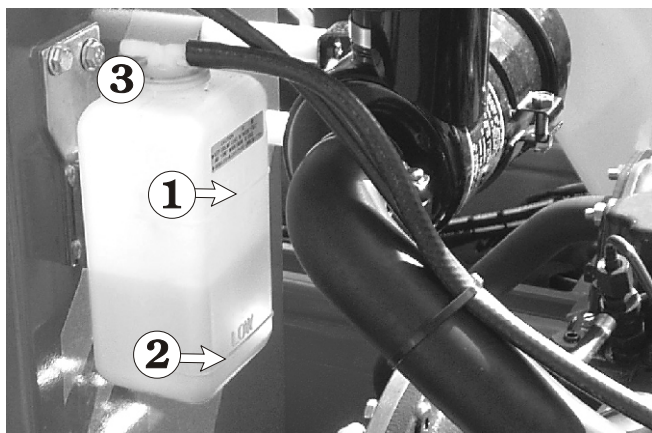

Figure 7.7 - Engine Coolant Level
The Kubota engine is liquid cooled. The coolant should be between the FULL level ① and the LOW level ② (see Figure 7.7).
Turn the engine OFF at the ground control box KEY SWITCH. Remove the cap ③ (see Figure 7.7) from the coolant reservoir. Add coolant and replace cap.